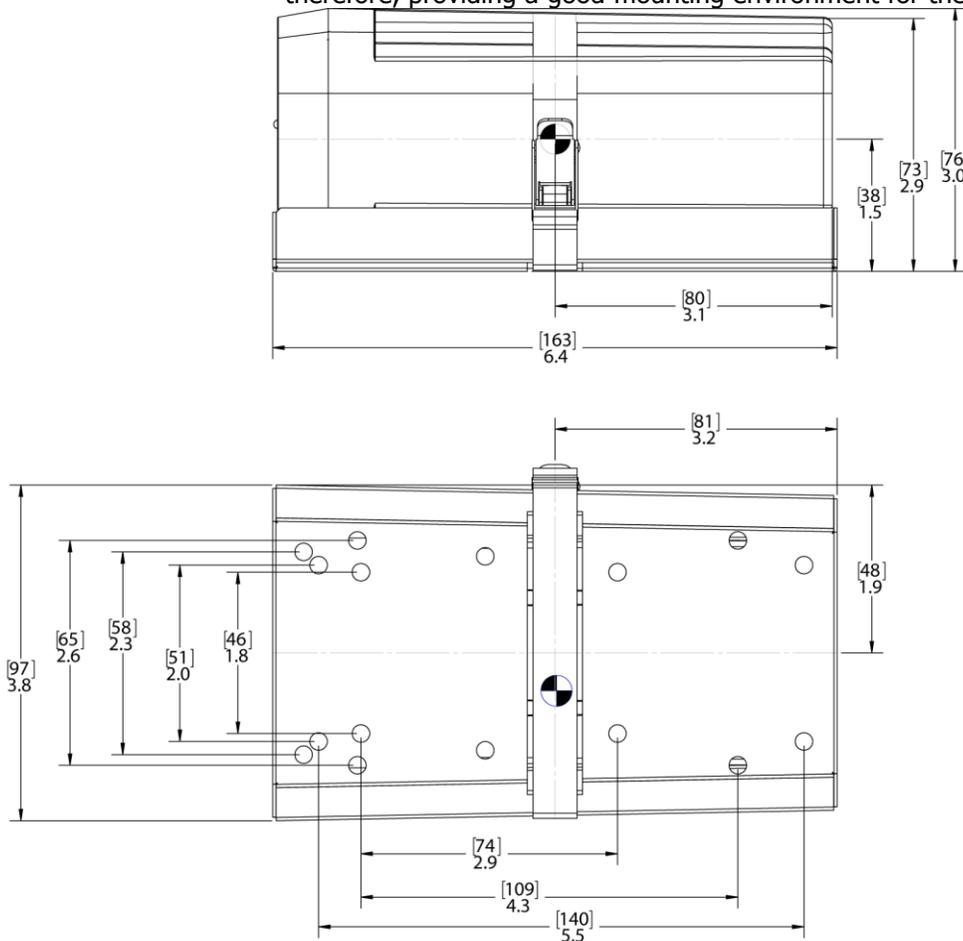
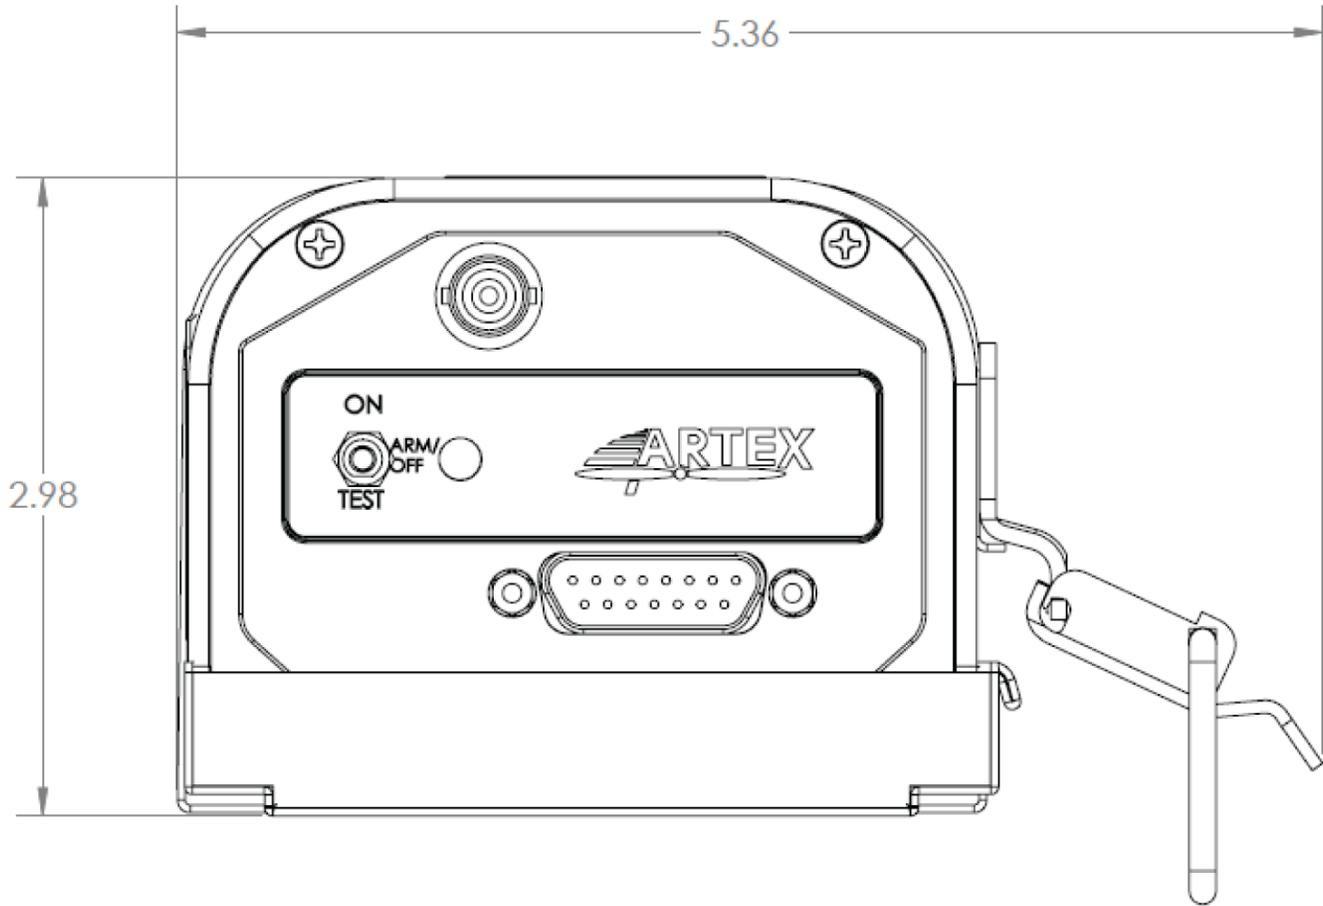

Figure 11 Artex ELT 345 Outline & Dimensions
Figure 12 ELT 345 Metal Strap Minimum Clearance Dimensions
- 1) Select a suitable location for the ELT mounting tray (see Figure 11 Artex ELT 345 Outline & Dimensions on page 39 and Figure 12 ELT 345 Metal Strap Minimum Clearance Dimensions above).
- 4) Mark and drill the four mounting holes with a #19 or 4.25 mm drill. Refer to Figure 11 on page 39 for the mounting hole pattern.